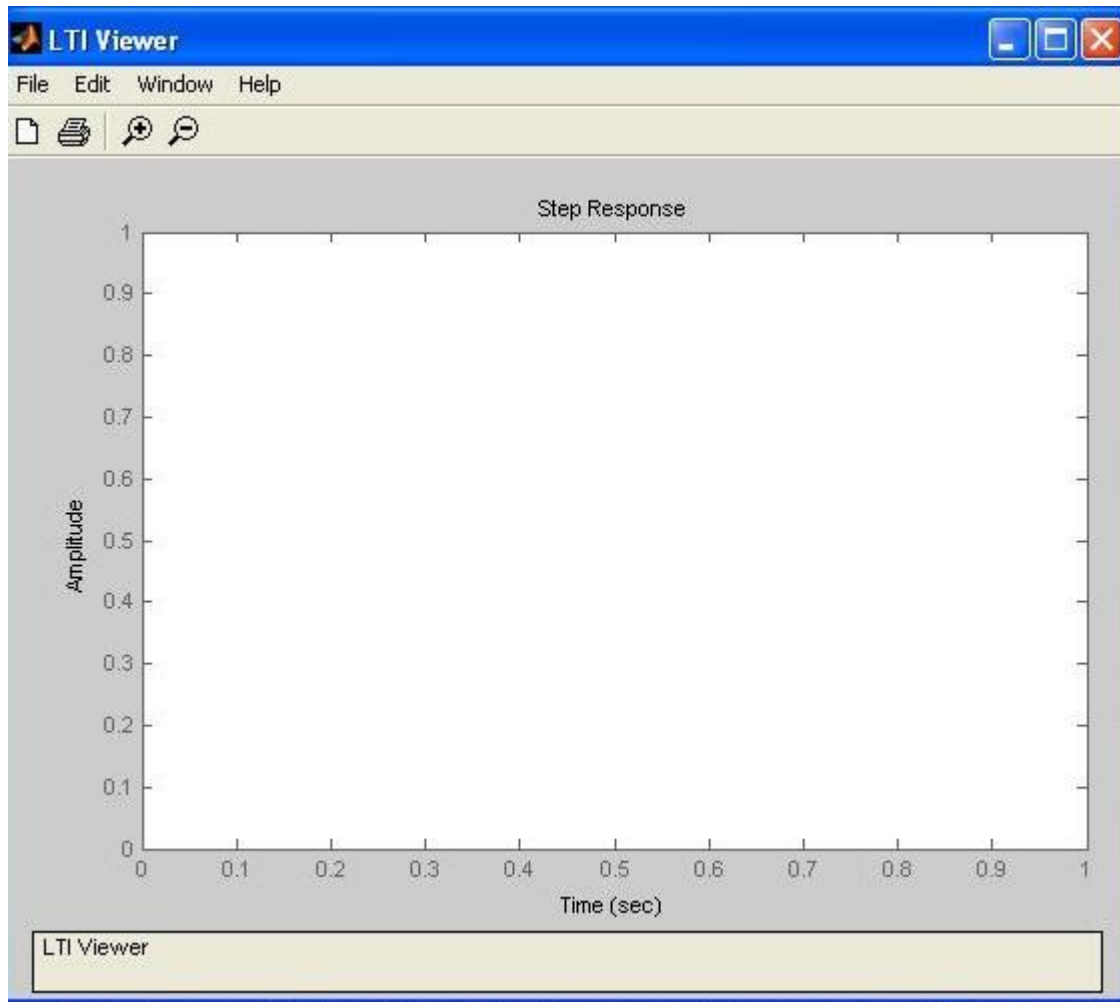

Fig. M5.1 *LTI Viewer Window*
1. **Access the LTI Viewer:** The **LTI Viewer** window, shown in Fig. M5.1, can be accessed by typing **ltiview** in the MATLAB Command Window or by executing